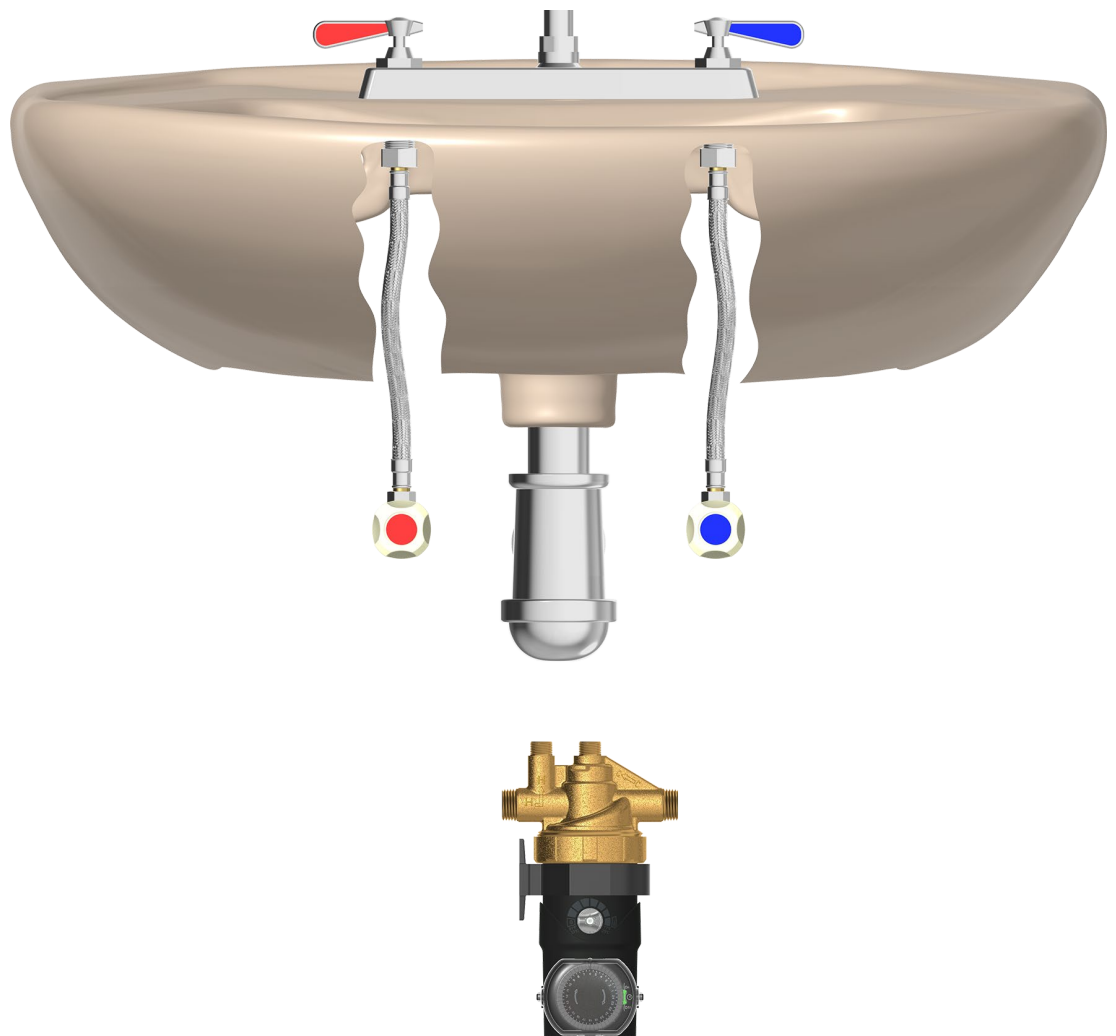

Figure 9
2. Fasten the Autocirc unit to the wall under the sink using the wall bracket provided in the Autocirc kit. Be sure the pump timer is turned toward the front and is accessible for setting and changing the time. The pump must be installed only in vertical position, as shown in **Figure 9**.